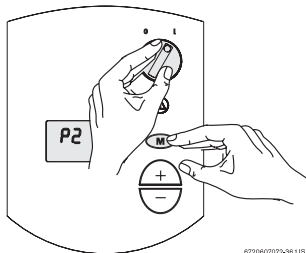

Fig. 43
- ▶ While holding the Program (M) button, move the ON/OFF switch to ON (I) position (see Fig. 43). As soon as '188' flashes on the display, release the Program button. The display should now read P2.